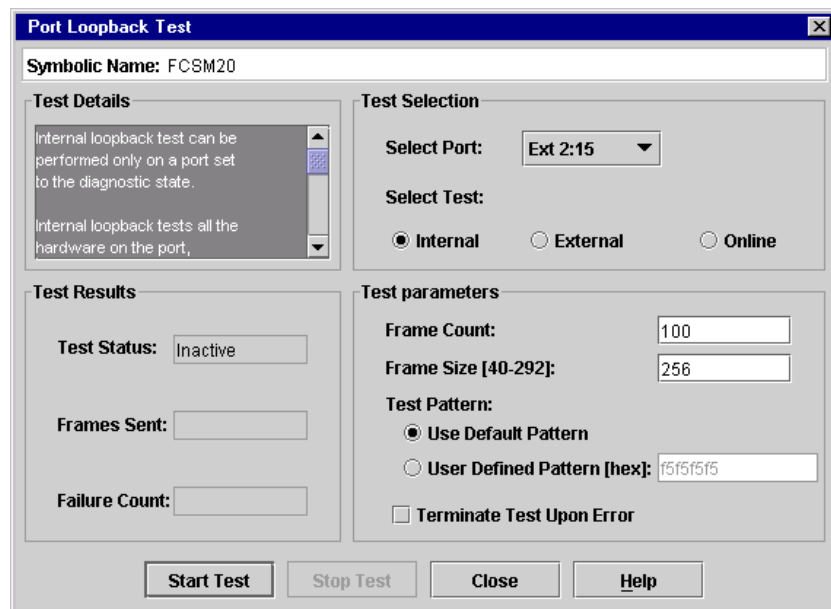

Figure 3-2. Port Loopback Test Window
2. Open the Port menu and select **Port Loopback Test** to open the Port Loopback Test window shown in Figure 3-2.